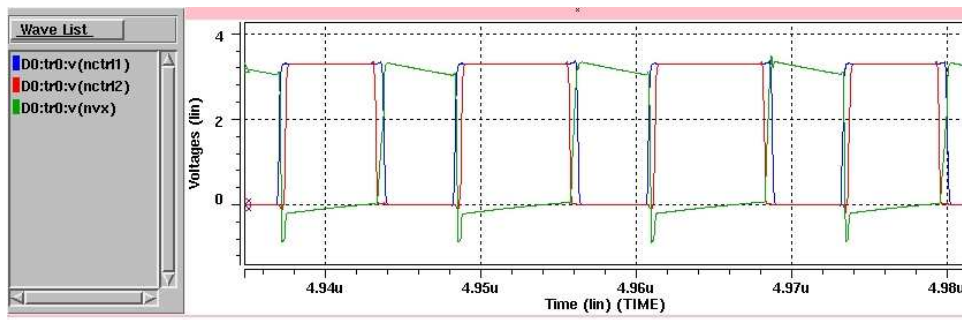

Figure 3: Simulation Results for the skewed control
2. Since the ZVS loop has some problems so that we can't clearly get the confirmed simulation results for each component's power consumption. Professor suggests to turn off the ZVS loop and check the power numbers. However, there will be a huge short circuit current if ZVS not working. To solve this, I use some skewed inverter to generate the delay for the control signal of PMOS and NMOS so that they will not turn-on at the same time. This is done manually and is only for analysis purpose. The skewed control signal can be seen in Figure 3. Simulation results is consistent with the analysis we made before.